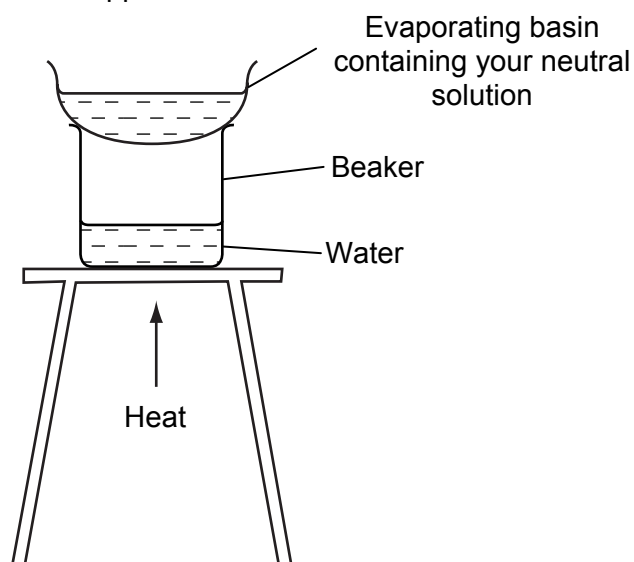

Figure 1.4
9. Evaporate all the water away from a small sample of your neutral solution using the apparatus in Fig. 1.4. Be sure to adjust your Bunsen burner to give a suitable flame. You will be left with small, white crystals of sodium chloride.